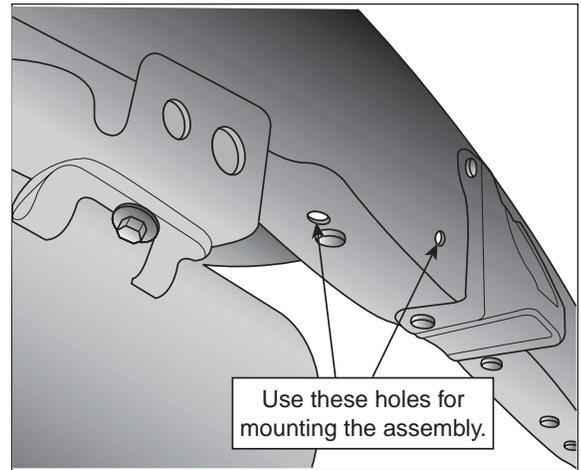

Figure 4
1. Set the driver-side assembly on the leaf spring forward of the axle. Attach the upper bracket to the frame using the existing holes in the frame (one on the side and one underneath) (Figure 4), two $\frac{3}{8}$ "-16 x 1" bolts, four flat washers, and two nyloc nuts. Tighten securely.